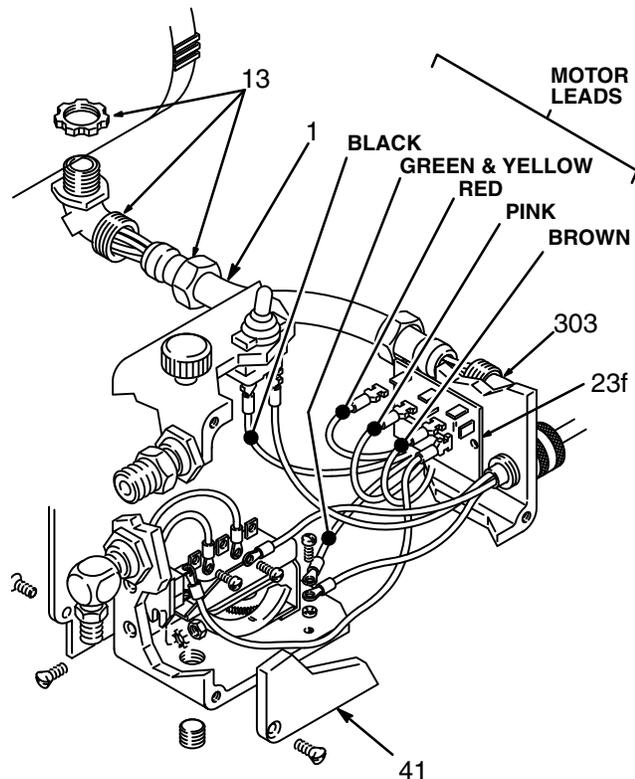

Fig 22-1
4. Remove the pressure control cover (41). Disconnect the motor leads as shown in Fig 22-1.
5. Unscrew the connector (13 and 303) nuts on both ends of the conduit (1). See Fig 22-1.
7. Loosen the locknut and unscrew the connector (13) from the motor. Do not twist the wires. See Fig 22-1.